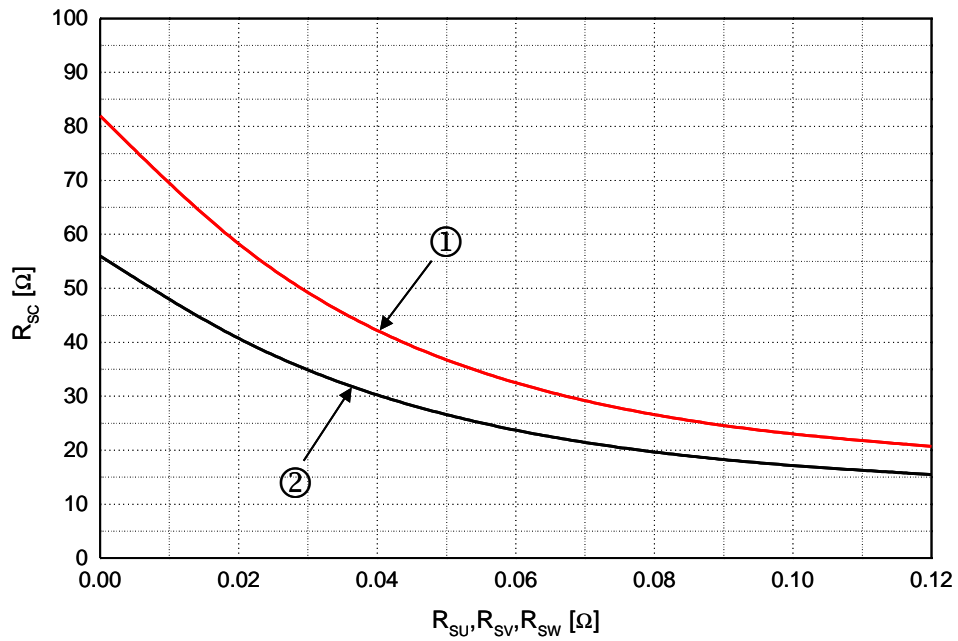

Fig. 8. R_{sc} Variation by change of Shunt Resistors (R_{SU}, R_{SV}, R_{SW}) for Short-Circuit Protection
- Short-circuit current protection is functioning only at the low-sides. It would be recommended that the value of the external sensing resistor (R_{SC}) should be selected around 56 Ω in order to make the SC trip-level of about 22A at the shunt resistors (R_{SU}, R_{SV}, R_{SW}) of 0Ω. For the detailed information about the relationship between the external sensing resistor (R_{SC}) and the shunt resistors (R_{SU}, R_{SV}, R_{SW}), please see Fig. 8.
9. For the use of shunt resistors (R_{SU} , R_{SV} , R_{SW}), please see Fig. 8 in order to select the proper R_{SC} .